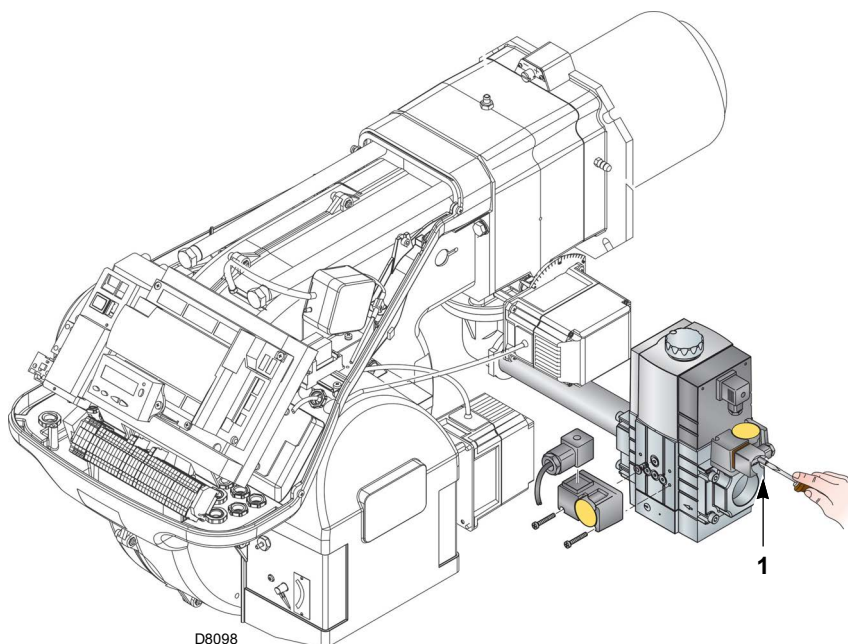

Fig. 27
- Check the gas supply pressure by connecting a pressure gauge to the pressure test point 1)(Fig. 27) of the minimum gas pressure switch: it must be lower than the maximum allowed pressure of the gas train, as shown on the characteristics label.